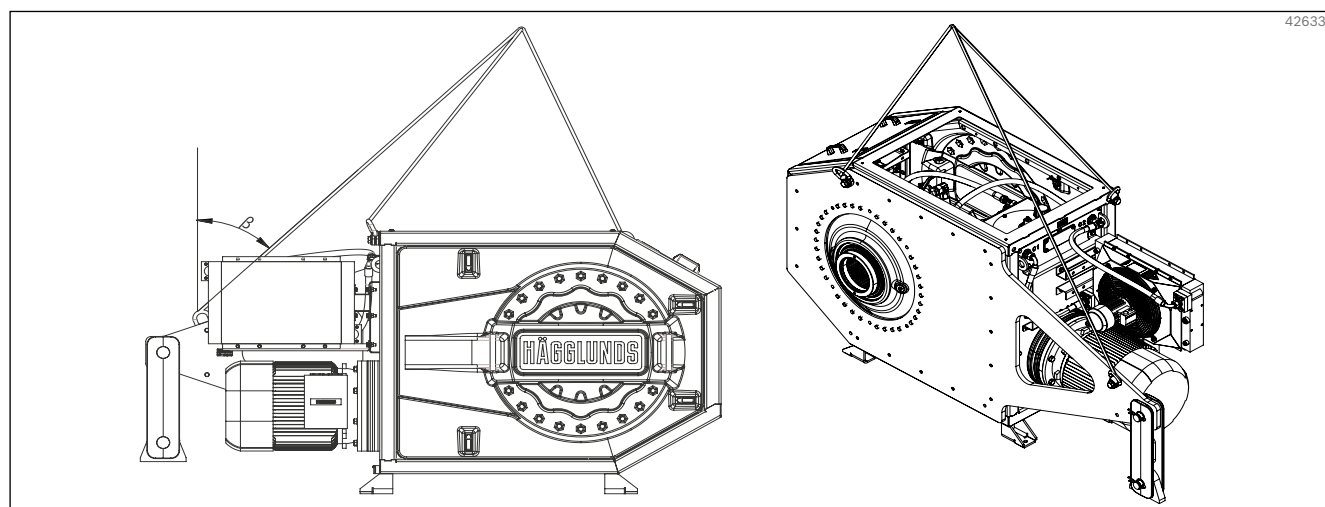

Fig. 6: Lifting Fusion
- ▶ Always use the number or lifting points, seen in Fig. 6 when lifting the drive system.